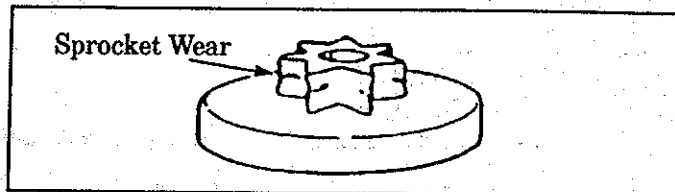

Figure 43
- Inspect the sprocket regularly for wear. A worn sprocket will make the chain run erratically and will shorten the life of the bar and chain. Figure 43.